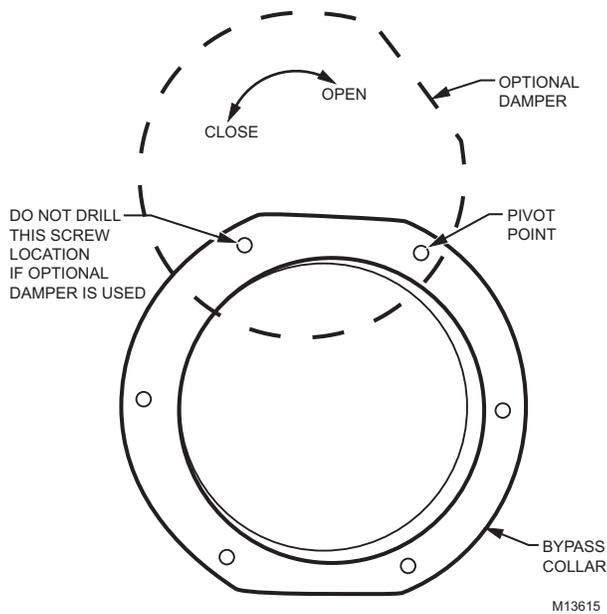

Fig. 10. Drill pattern.
- Pre-drill the mounting holes using a 1/8 in. drill bit. If you are installing the optional Damper, do not drill the hole where the damper blade will swing. See Fig. 10.